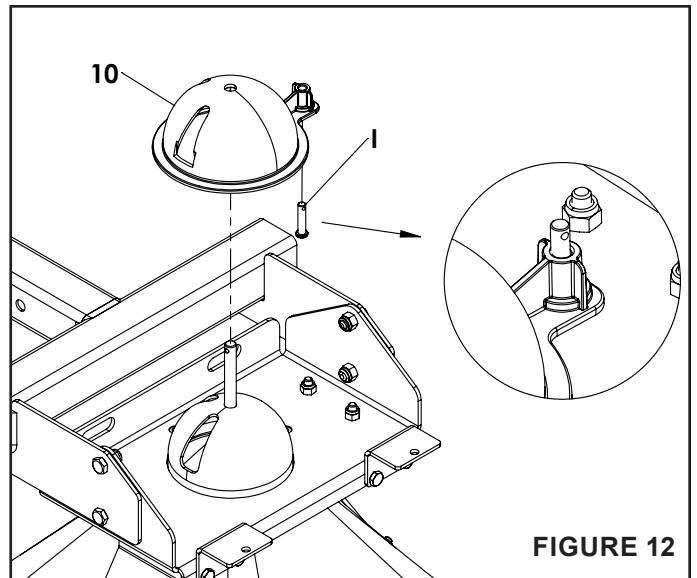

FIGURE 12
STEP 12: (SEE FIGURE 12)
- Install a clevis pin (I) into dispenser gate (10) as shown.
- Note: Dispenser gate (10) does not have a cutout.**
- Install dispenser gate (10) onto the impeller shaft making sure the two openings are open and lined up. Needs to be orientated as shown in image.